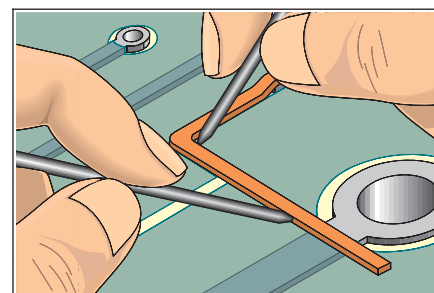

Figure 3 Bend foil jumper using 2 wood sticks.
14. Bend the foil jumper as needed to match the shape of the missing conductor. (See Figure 3.)